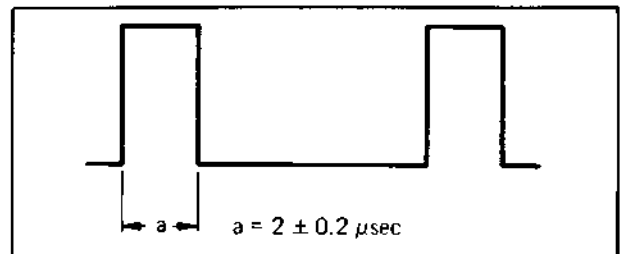

Fig. 5-25 AFC Detector reference signal
3. Adjust R301 (PULSE WIDTH) so that the pulse width of TP-218 is as shown in Fig. 5-25.